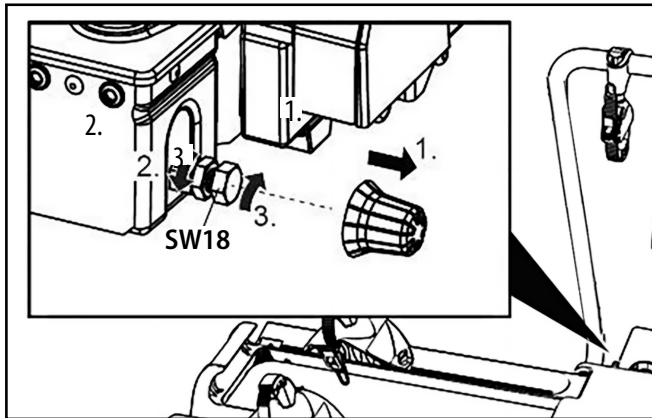
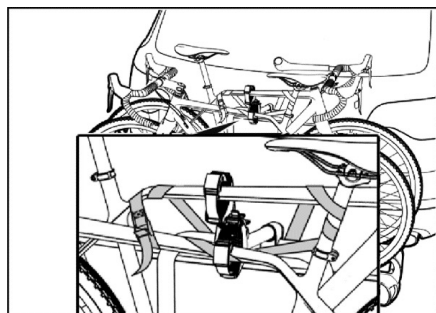

Figure 13: Adjusting the quick-release fastener
Figure 18:
- Slightly loosen the lock nut (Fig. 13).
- Turn the adjusting screw in a quarter of a turn (Fig. 13).
Place the tensioning straps of the wheel brackets around the rim of the wheel and insert the tensioning strap into the fastener. Tighten the tensioning strap, Fig. 13, and secure the front wheel with a short tensioning strap. Now secure the bikes with the long seat belt. Place the safety belt through the bike frame and around the U-bracket and pull the safety belt tight, Fig. 18.